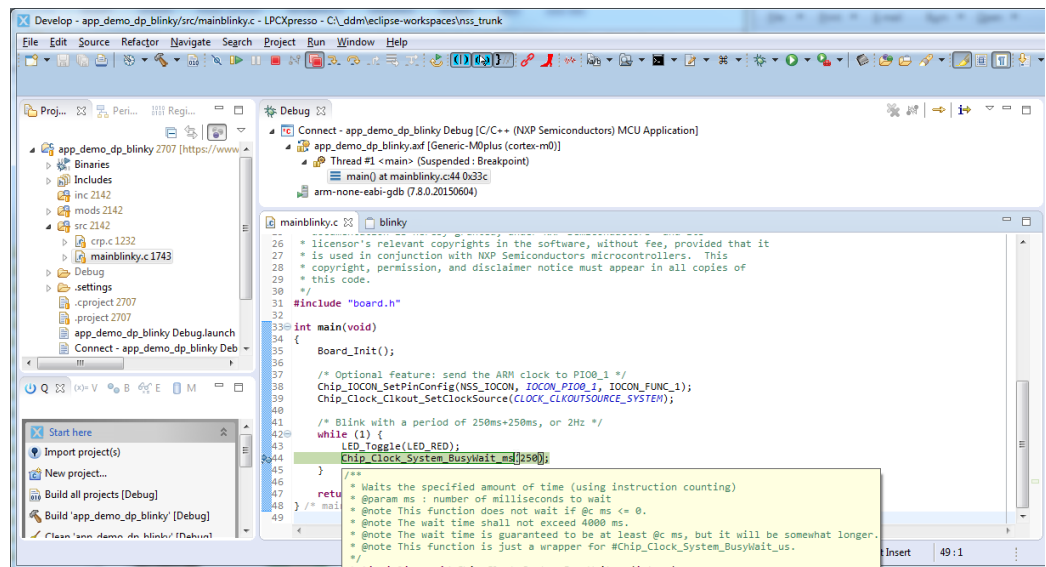

Figure 24: A debug session with ARM halted due to a breakpoint
After resuming the application you can pause it again by e.g. adding a breakpoint inside the `while (1)` loop – just double-click the desired line in the left gutter of the file editor view, where it will halt execution immediately. See Figure 24.